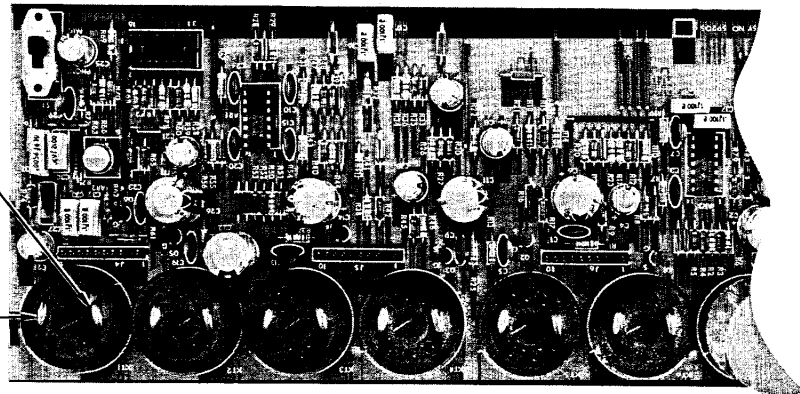

FIGURE 7B
2. Remove the two copper jumpers between terminal **8 & 9** and **4 & 5** of **XT1-XT6**, Figure 7B.
To install microphone jumpers, Figure 7B :